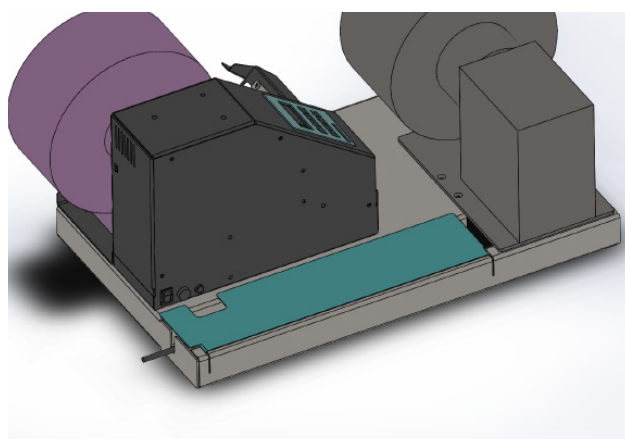

FIG. 6
- bundle comes with 1 power supply for both devices, store the power supply under the cover (FIG.6)